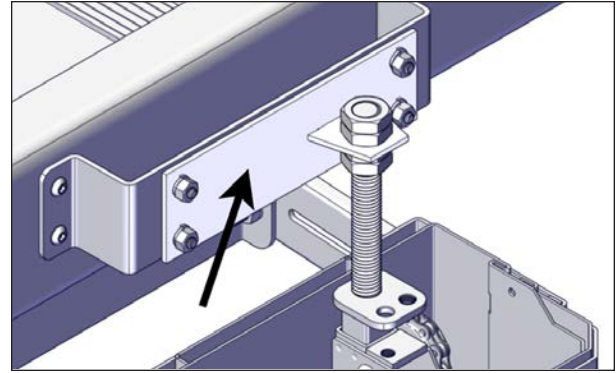

FIGURE 113: JACK ADAPTER SCREW REINSTALLATION
4. Gently slide down the sleeve assembly, see Figure 113.
5. Reinstall the jack adapters, but not the sleeves. Reinstall the 1/4-20 x 3/4" carriage bolts (4), see Figure 113.